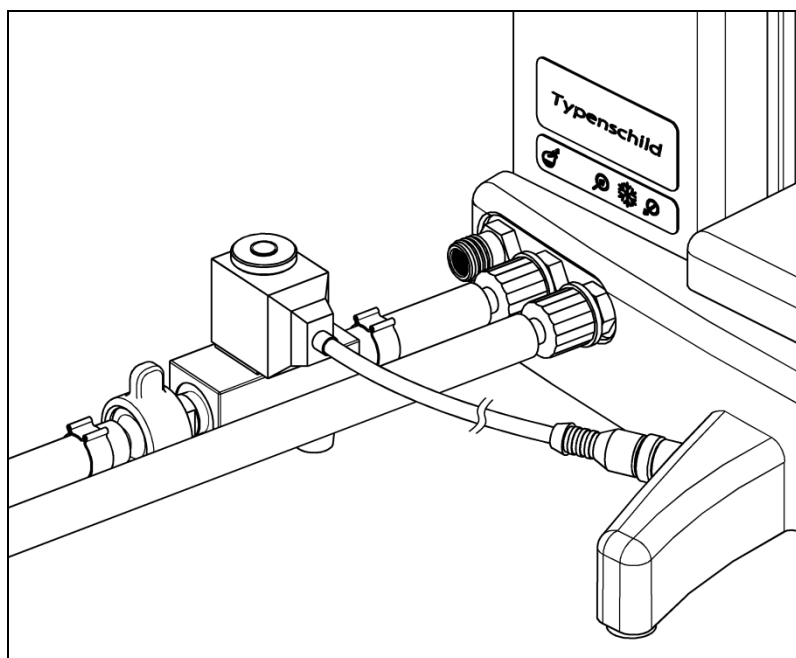

Fig. 9: Connecting coolant valve.
3. If present, connect the coolant valve (accessory) into the feed line (see Fig. 9).